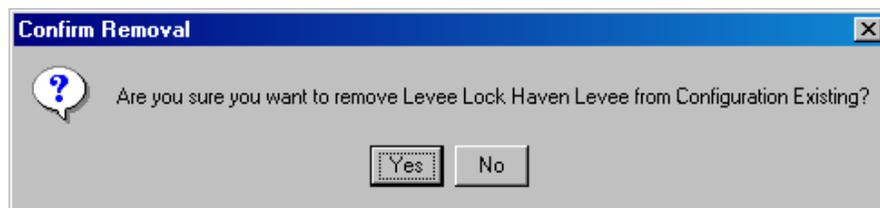

Figure 6.10 Confirm Removal of Levee Dialog Box
3. From the shortcut menu, select **Remove from Configuration**. This command removes the levee from the Configuration that is currently displayed in the **Configuration** box on the toolbar. The **Confirm Removal** dialog box appears (Figure 6.10).